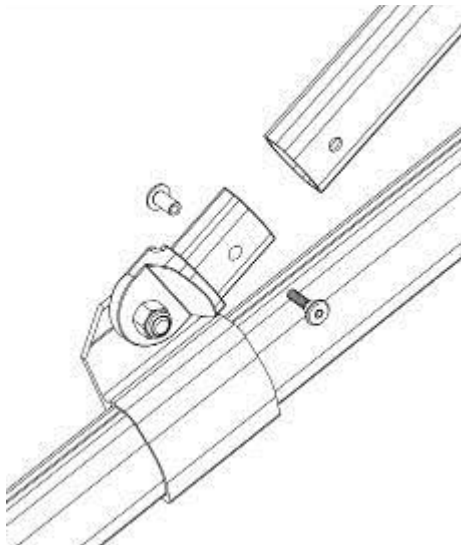
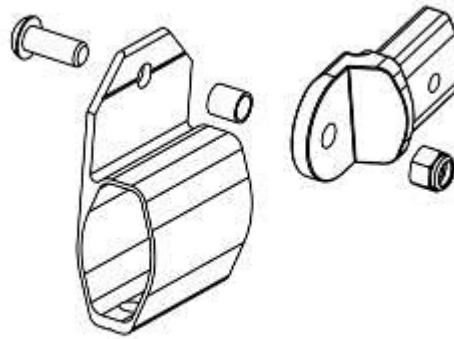

Fig. 20
Fig. 21
4. Place one of the tension bow arms over the tab mounted to the bracket installed in step 3 and bolt in place (see Fig. 20 on next page) If the tension bow mount and tab assembly is not assembled see assembly in Figure 21.
1. Swing both bows forward until they rest on the head assembly. The tension bow should rest in the middle of the head assembly opening and the tarp bow should be a little shorter than the tension bow. If not, reposition the mounting brackets and/or adjust the bows until they match **Figure 21**.